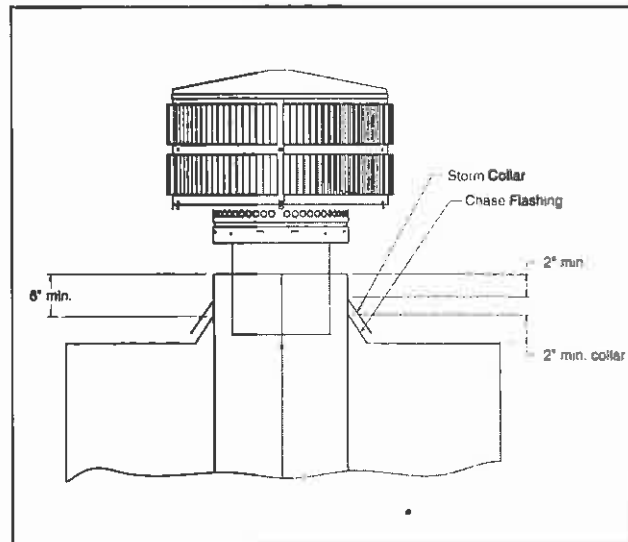

Figure 20 - Installing a TR344 Round Termination Cap
- a. Install the chimney sections up through the chase enclosure. When using a TR344 round termination cap, the uppermost top section of pipe must extend 6" above the top of the chase collar to allow installation of the storm collar and termination cap. See Figure 20.